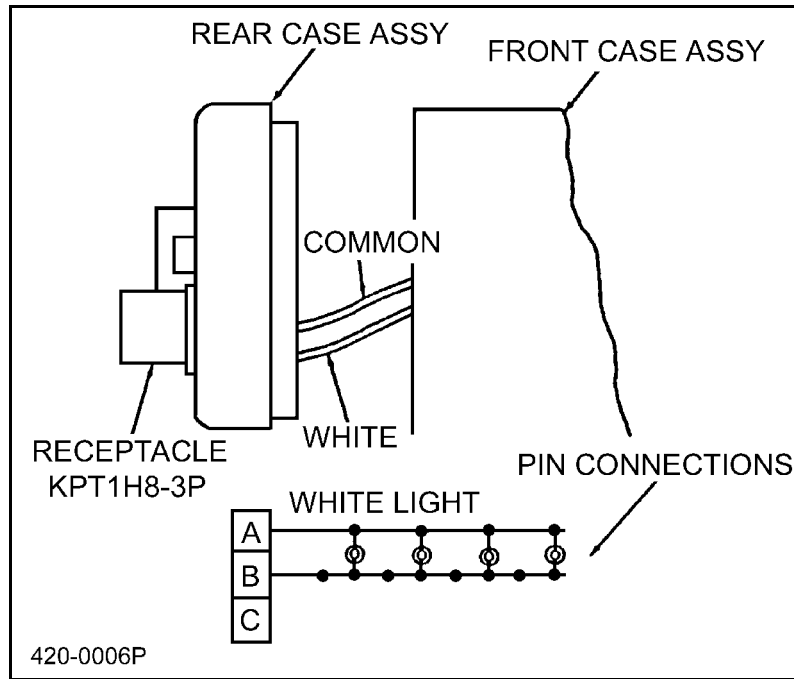

Figure 2. Wiring Diagram
Refer to Figure 2 for continuity.
- (z) If removed, install bezel and light assembly (25, 95) on front case assembly (100).
- (aa) Replace packings (75) on knob assy (70) and install in rear case assembly (80); then place spring (65) and washer (60) over shaft of knob and secure with pin (55). Check to see knob turns when pulled.
- (bb) Install mechanism assembly (145 through 380) in front case assembly (100) then using wiring diagram, Figure 2, hook up wires to connector (85, IPL Fig. 1) in rear case subassembly (80).
- (cc) Solder a new seal strip (40) completely around instrument case assembly. Make certain that strip makes a completely air-tight seal.
- (dd) Seal screws (45) with Epon 828.
- (ee) Install release knob (10) with pin (15). Use Loctite 271 on screws.